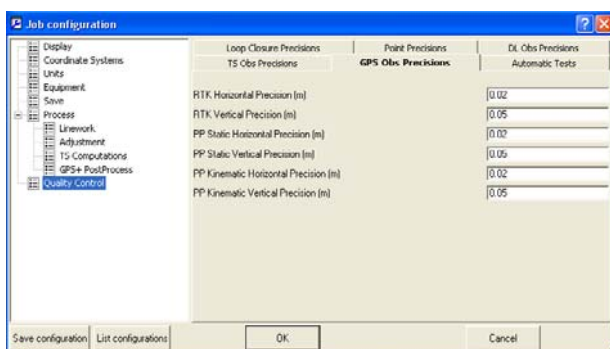

Figure 2-34. Job Configuration – GPS Obs Precisions
- The *GPS Obs Precisions* tab sets horizontal/vertical precisions for RTK vectors and static/kinematic GPS post processing vectors (Figure 2-34 on page 2-24). If the values for horizontal  $\sqrt{(Res(e))^2 + (Res(n))^2}$  and vertical residuals for RTK and GPS post-processed vectors resulting from a net adjustment—with Rejection Criterion-By Control—are worse than the values set in this tab, the observations are highlighted in red on the *GPS Obs* tab, in Map view, and in Reports. If the values of horizontal precision/vertical precision for RTK and GPS post-processed vectors calculated in the process of net adjustment are worse than the values set in this tab, the observations are highlighted in red on the *GPS Obs* tab, in Map view and in Reports, and will not be used in the final adjustment of the network.